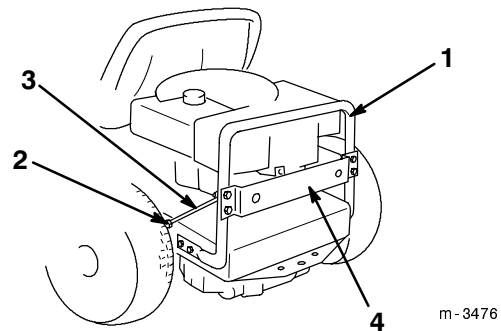

Figure 2
This section describes the procedures for installing the mounting bracket and bagging brace on a rear engine rider with a wrap-around stand bar, serial number 3900001 and up (Fig. 2).
1. Remove the top center bolt from the left side of the rider frame (Fig. 2).
2. Loosely attach the bagging brace to the rider with the bolt removed in step 1 (Fig. 2).
3. Position the mounting bracket across the wrap-around stand bar, aligning the holes in the bracket with the holes in the stand bar (Fig. 2).